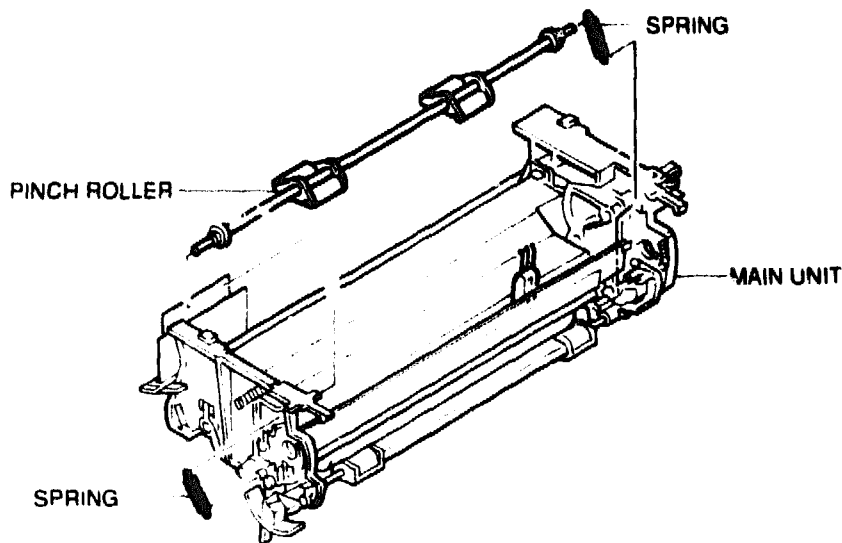

Figure 8-17 Removing the Pinch Roller
- 13. Remove the Pinch Roller fastening springs on the rear of the main unit and slide out the Pinch roller (see Figure 8-17).**